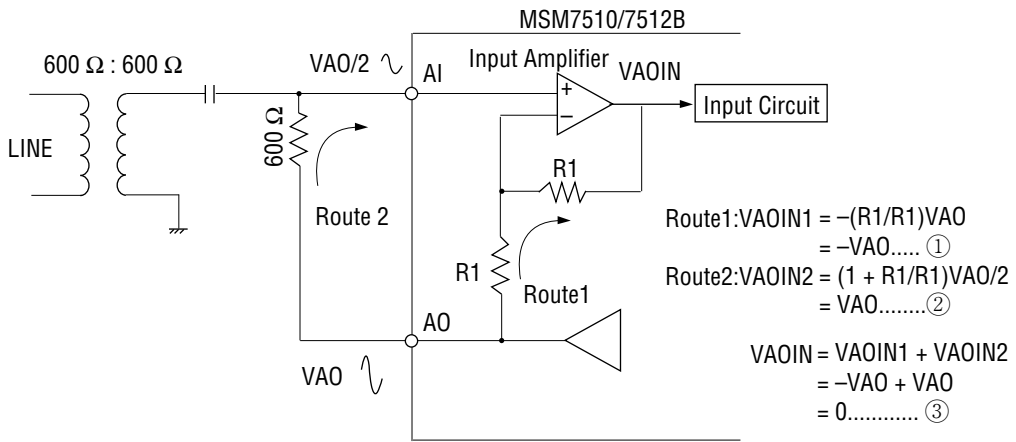

Figure 4-5 Functions of Resistance Hybrid Circuit
Figure 4-5 shows the functioning of the resistance hybrid circuit that prevents transmit signals from entering the input circuit. If the signal transmit level of the AO pin is VAO, and if the impedance around the line is optimal, the transmit signal becomes VAO/2 at the AI pin. The transmit signal also enters the input circuit via routes 1 and 2, and the level (VAOIN) at the input amplifier output component becomes -VAO and VAO respectively ①, ②. This means that the total level of these two routes become zero ③, and the transmit signal no longer enters the input circuit.